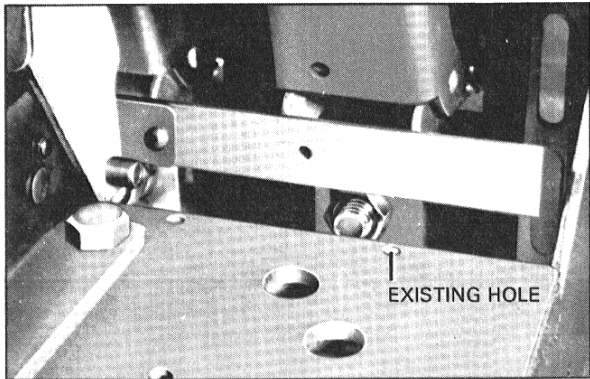

Fig. 5 Location of Existing Hole for Actuator
- 1. Using the existing .25-20 tapped hole in the breaker platform and .25-20 x .5 sems screw secure the actuator to the breaker with the right edge of the actuator base parallel to the side of the breaker platform. See Figs. 5 and 6.